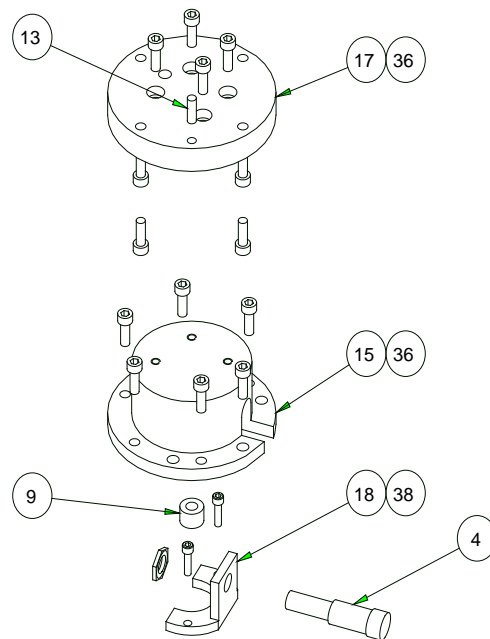

Figure 10-6 Jumper/Shaft Collar Adjustments
1. Remove the cable from the proximity switch (see Figure 10-6, Item #4).
1. Attach the cable to the proximity switch (see Figure 10-6, Item #4).
1. Use an adjustable open-end wrench to loosen the jam nut located on the inside of the proximity mount (see Figure 10-6, Item 18).